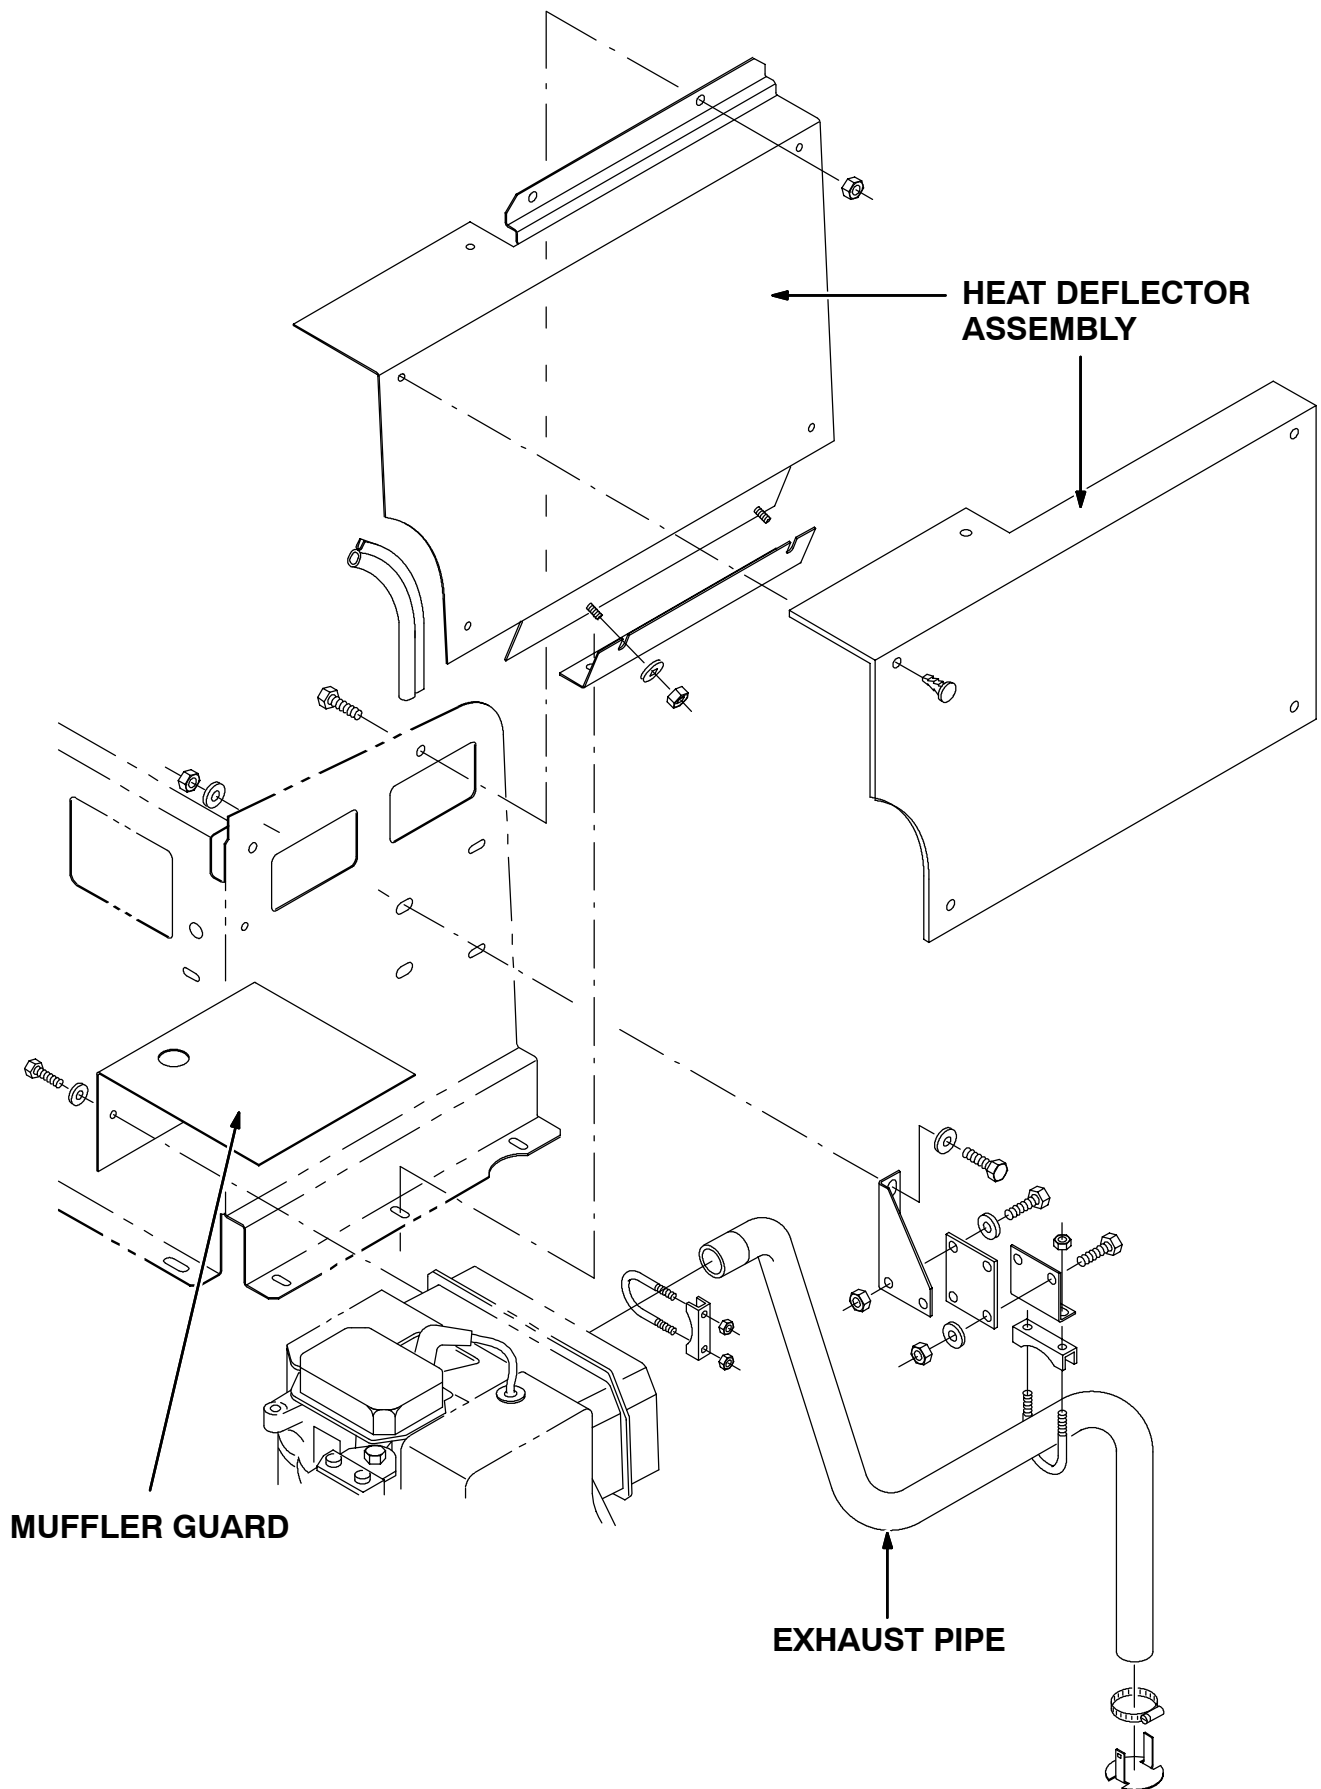

FIG. 2 - MUFFLER GROUP
2. Loosen the two securing nuts on the bottom of the heat deflector assembly. Remove the top mounting hardware and heat deflector assembly. (Refer to FIG. 2)
3. Remove the muffler guard from the top of the engine. (Refer to FIG. 2)
7. Loosen and remove the exhaust pipe. (Refer to FIG. 2)
34. Tighten the exhaust pipe, and check for clearance where the pipe goes through the frame. (Refer to FIG. 2)
39. Replace the heat deflector assembly back on the side of the machine. (Refer to FIG. 2)